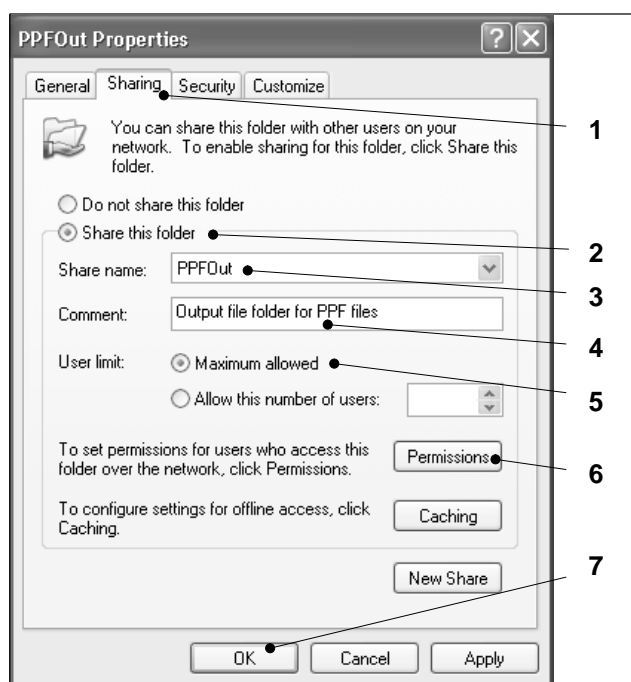
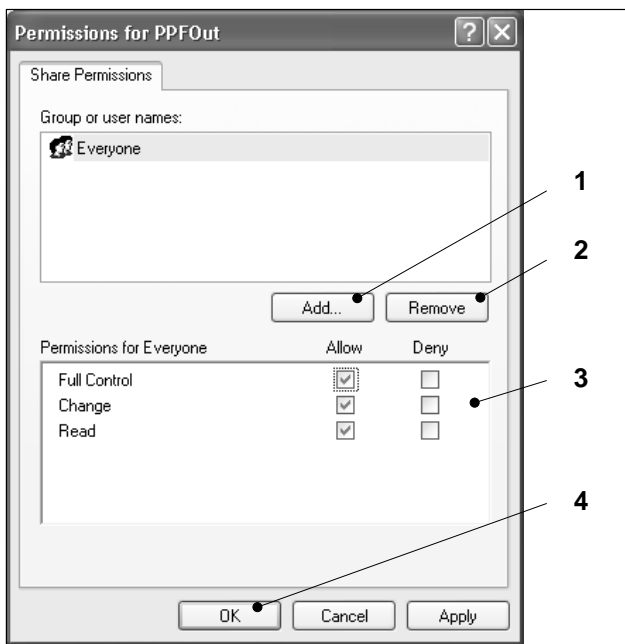
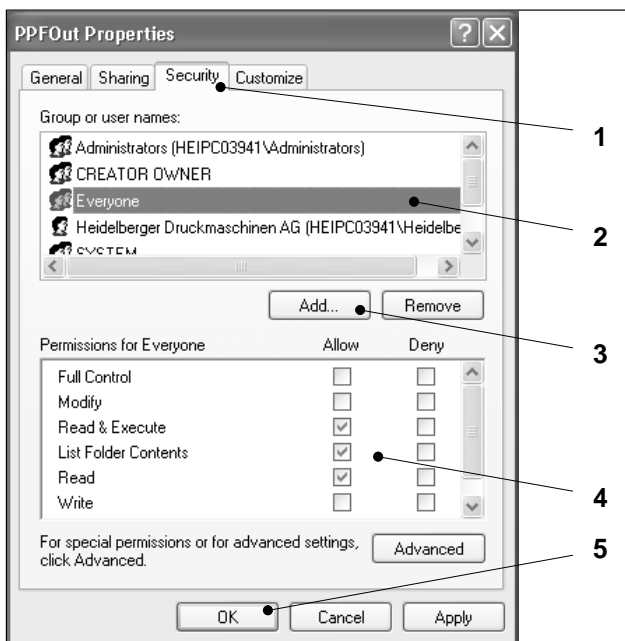

Fig. 10 Properties – Sharing dialog box
Fig. 11 Share permissions dialog box
Fig. 12 Properties – Security dialog box
The dialog box shown in Fig. 10 opens.
4. Click on the *Sharing* tab (Fig. 10/1).
5. Activate the radio button *Share this folder* (Fig. 10/2).
6. If not yet existing, enter a share name (Fig. 10/3) and, if necessary, a comment (Fig. 10/4) in the input fields.
7. Specify the number of users permitted (*Maximum allowed* is selected in Fig. 10/5).
8. Click on the *Permissions* button (Fig. 10/6) to define the permissions for user access.
The dialog box shown in Fig. 11 appears.
In the *Permissions* dialog box (Fig. 11), you define the users that shall have the right to access the shared directory and you also determine the access method.
9. If you want to grant the access right to further users, click on the *Add* button (Fig. 11/1). If you want to remove users from the list displayed in the dialog box, click on the *Remove* button (Fig. 11/2).
10. When you have selected a user in the upper section of the dialog box, you can determine the type of access in the *Permissions* list at the bottom (Fig. 11/3).
11. Confirm your entries with *OK* (Fig. 11/4). This returns you to the *Properties* dialog box (Fig. 10).
12. Now check whether the previously selected or newly created user has the access rights to your computer. Click on the *Safety* tab in the *Properties* dialog box (Fig. 12/1).
13. In Figure 12 you can see that the user "Everyone" who was authorized in Fig. 11 already exists in the security section (Fig. 12/2). You can also see the privileges currently assigned to this user (Fig. 12/4). If a user is still missing from this list, click on the *Add* button (Fig. 12/3) and create the user here.
14. When you have made all entries, click on *OK* in the *Properties* dialog box (Fig. 12/5). Now the selected user(s) can access the directory in accordance with the assigned access privileges.